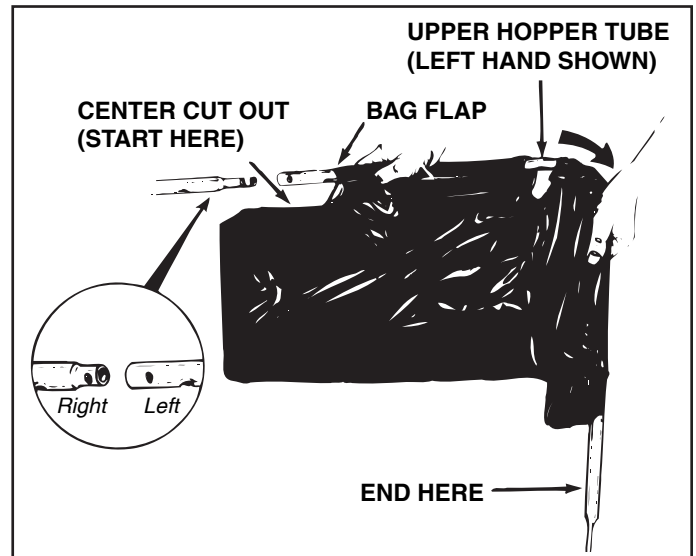

FIGURE 8
- Insert the left hand upper hopper tube through the stitched flaps of the hopper bag, **starting at the center cut out** in the top of the bag. See figures 8, 9 and 10. Repeat for the right hand upper hopper tube.